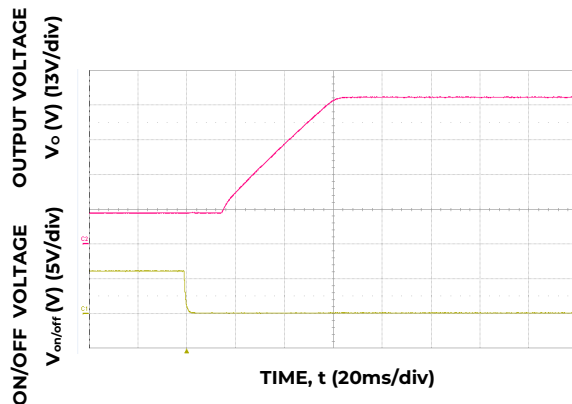

Figure 23. Typical Start-up Using On/Off Voltage ($I_o = I_{o,max}$).
- Please note because of the specific design of the BOOST topology, the input voltage will present on the output when the input voltage is applied. This will occur even when the unit is in its "OFF" State. When the module is turned ON, the output voltage will start to rise from V_{in} level and not 0V. When turning off, the output will only drop back to V_{in} (If V_{in} is still present). Please refer to Figure 23 for typical start-up waveform using Remote ON/OFF. It shows the V_{in} level present prior to turning the module "ON"
When the module is turned ON, the output voltage will start to rise from Vin level and not 0V. When turning off, the output will only drop back to Vin (If Vin is still present). Please refer to Figure 23 for typical start-up waveform using Remote ON/OFF. it shows the Vin level present prior to turning the module "ON"